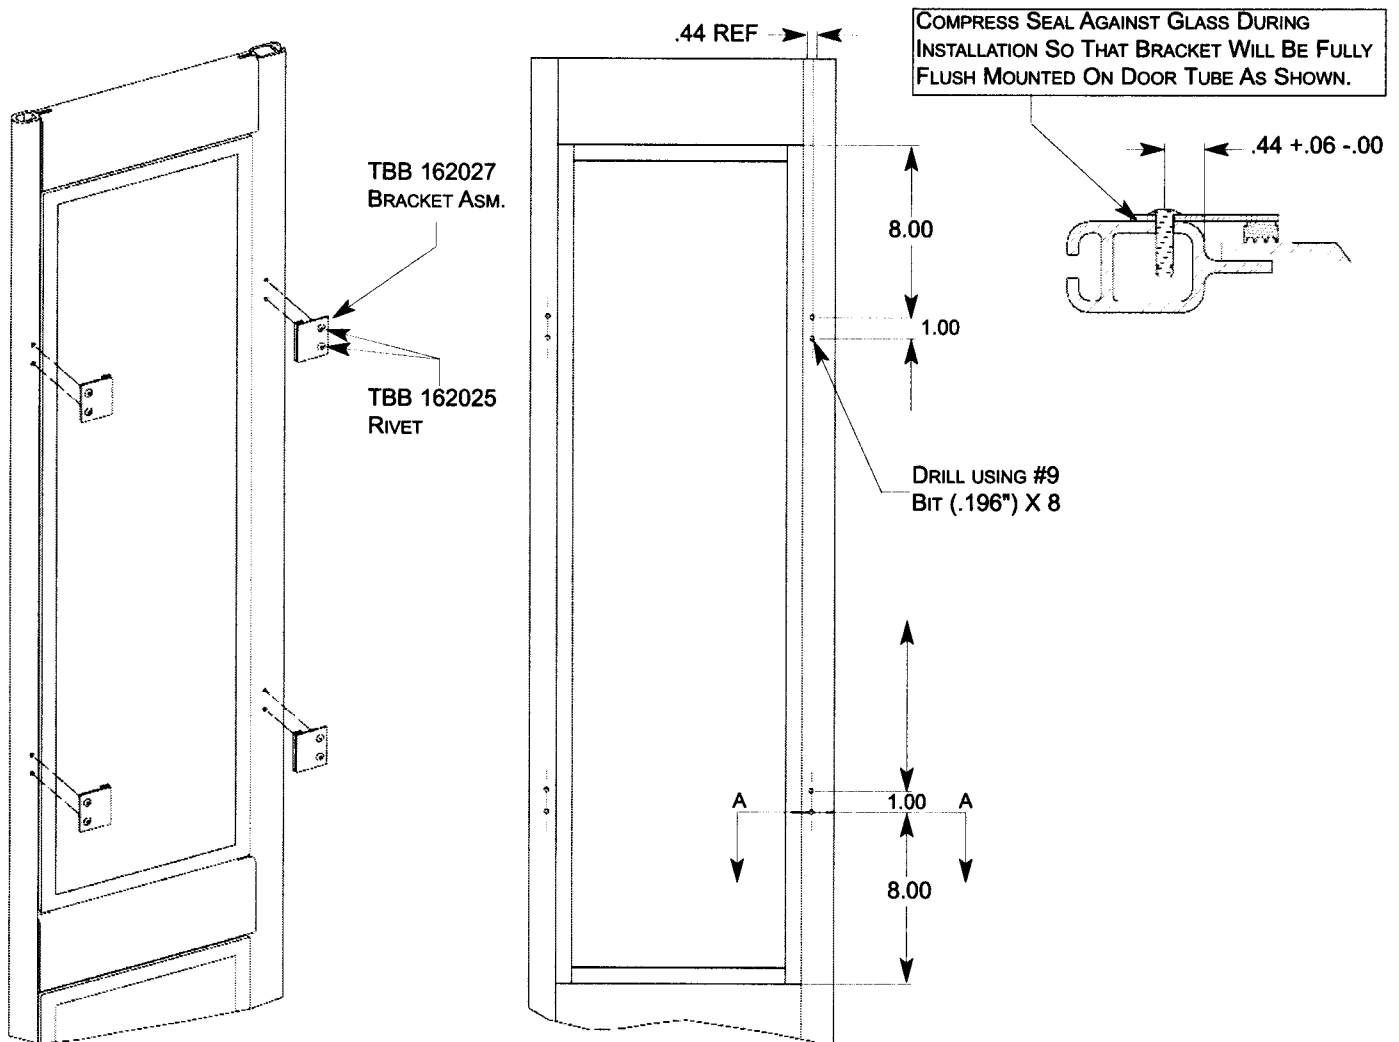

Figure 2
2. Reference **Figure 2** for Support Assembly mounting locations. The locations shown are the same for each of the four (4) AG2 door glass positions. Drill through one (1) wall of the AG2 entrance door frame using a #9 (0.196") bit for each mounting hole.